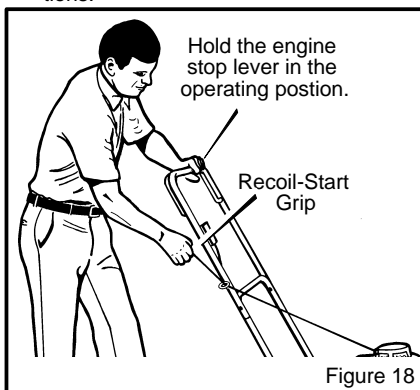

Figure 18
5. Stand behind the mower (Figure 18). Use one hand to hold the **engine stop lever** in the operating position as shown. Use the other hand to hold the **recoil-start grip**.